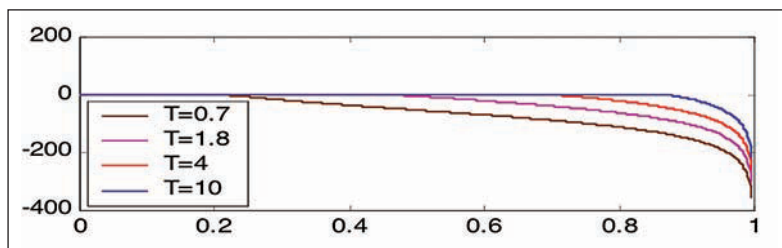

Figure 1: Frequency characteristics of the analogue low-pass transfer function and its corresponding digital versions for different T values
Frequency characteristics of the analogue and associated digital low-pass TFs are depicted in **Figure 1**. In the same figure, four frequency characteristics of associated digital TFs, obtained by using the conversion matrices defined in (18) for $T = 0.7$, $T = 1.8$, $T = 4$ and $T = 10$ are plotted.